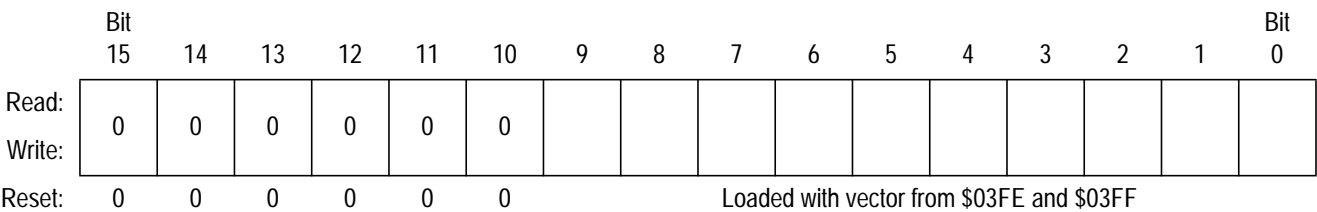

Figure 3-5. Program Counter (PC)
The program counter (PC) shown in **Figure 3-5** is a 16-bit register that contains the address of the next instruction or operand to be fetched. The six most significant bits of the program counter are ignored internally and appear as 000000.